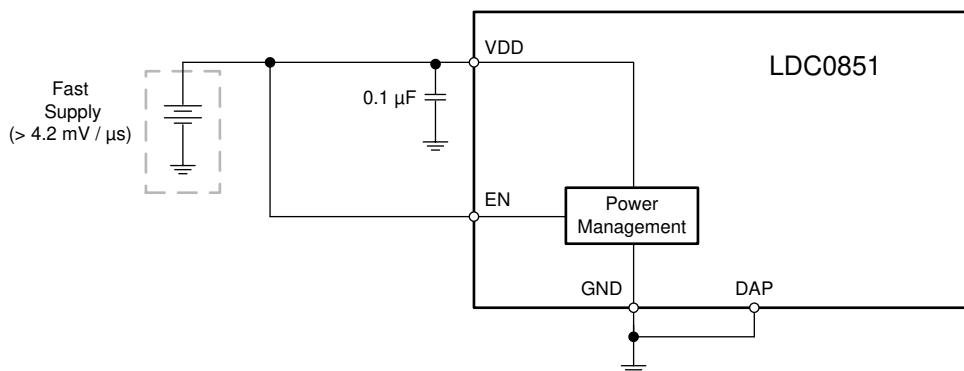

図 7-8. Supply Connections for Fast Ramp Rate
A 0.1 μF capacitor should be used to bypass VDD. If multiple bypass capacitors are used in the system, then the smallest value capacitor should be placed as close as possible to the VDD pin. A ground plane is recommended to connect both the ground and the Die Attach Pad (DAP). If the supply ramp rate must be faster than 4.2 mV/ μs the enable pin (EN) may be tied directly to VDD as shown in 図 7-8.